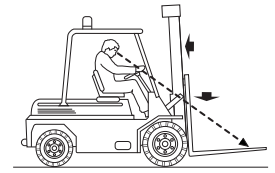

Figure 6
- When clear of the stack, apply the parking brake and select neutral if applicable. Lower the fork arms to just above ground level, apply a slight backtilt, and check that the way is clear before moving off (Figure 6).